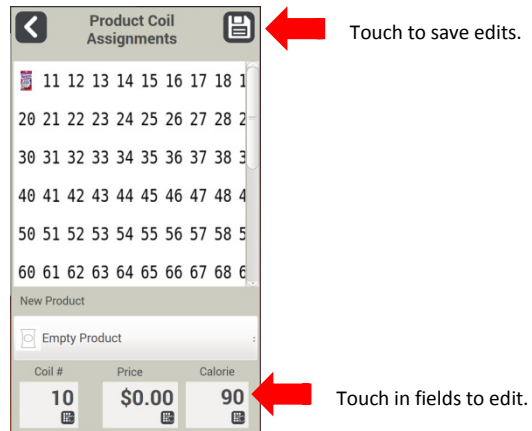

Figure 66
- Once the product is selected if needed you can change the pricing information and the calorie information. When this information is correct select the disk at the top of the screen to save the selected products to the changed product. (See Figure 66.) To change additional products repeat these steps again.